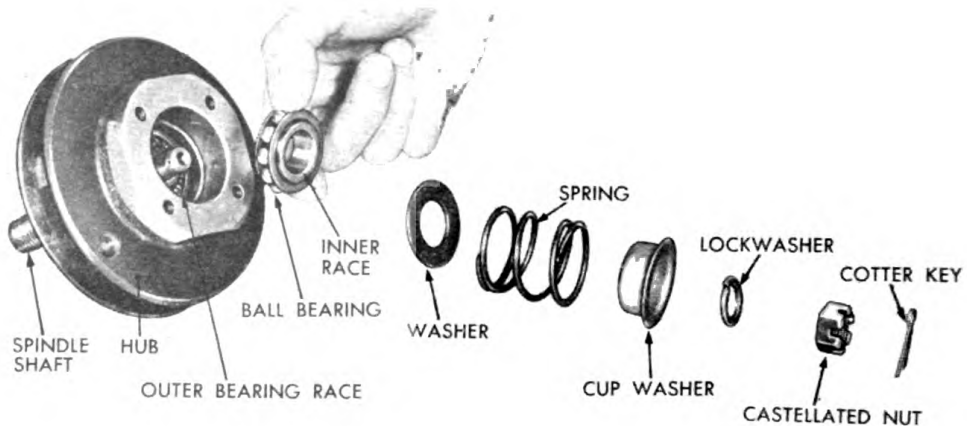

Figure 193. Removing Bearing.
C. Push the shaft into the pulley through the seal end. Pack WB-3 grease around the shaft in the hub and push the outer bearing in place on the shaft. See Figure 193.
D. Install the large flat washer, spring, cup shaped washer, small washer and the nut on the fan side of the shaft. Secure the nut and insert the cotter key. Fill the hub with WB-3 grease so that the grease is even with the fan mounting face. See Figure 193.